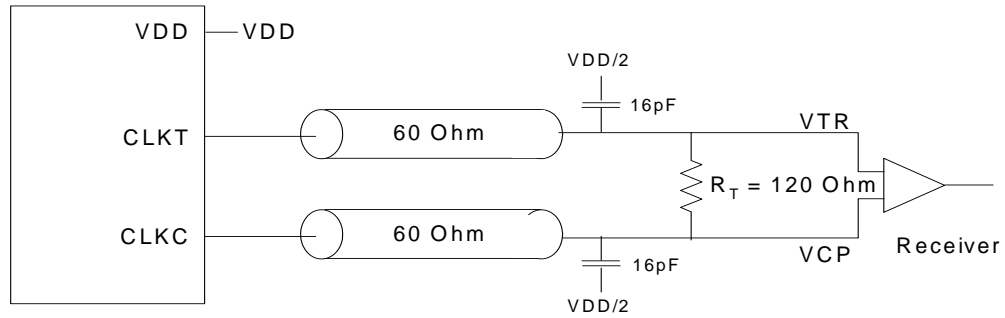

Figure 6. Differential Signal Using Direct Termination Resistor
- For load conditions see *Figure 6*.
- The value of  $V_{OC}$  is expected to be  $|V_{TR} + V_{CP}|/2$ . In case of each clock directly terminated by a  $120\Omega$  resistor. See *Figure 6*.
- All outputs switching loaded with  $16 \text{ pF}$  in  $60\Omega$  environment. See *Figure 6*.
- All differential input and output terminals are terminated with  $120\Omega/16 \text{ pF}$  as shown in *Figure 6*.